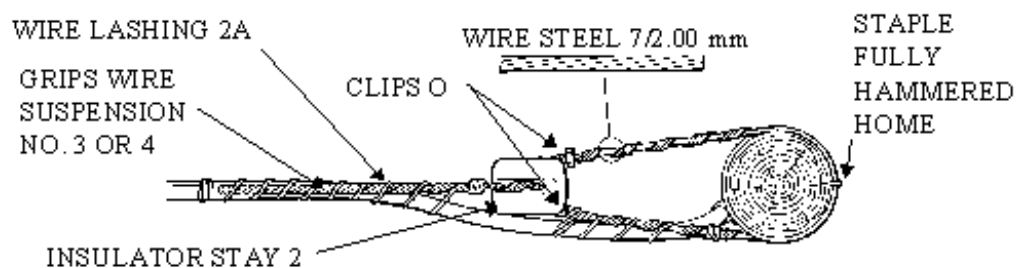

Figure 13: Aerial Cable Lashed to Grip following installation of Insulator Stay 2
**Caution:** Insulator Stay 2 is designed to take compressive loads between its two eyes tensile failure will occur if fitted in tension rather than compression. See figure 13
- The Cable should be bound to the grip using Lashing Wire 2A such that it supports the cable and enables a suitable bend radius to be maintained. See Figure 13 below.